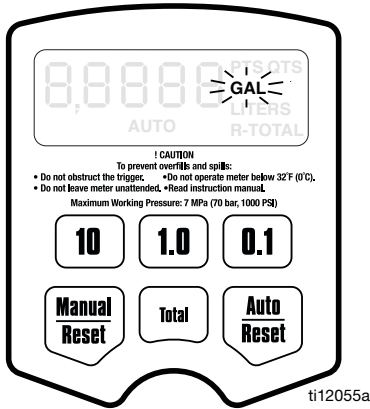

FIG. 25
- b. Press and hold the **Auto / Reset** button to display the Units of Measure Menu (FIG. 25, page 20). When this menu is displayed the last set Unit of Measurement blinks in the lower right corner on the screen.
Units of Measurement (FIG. 25)